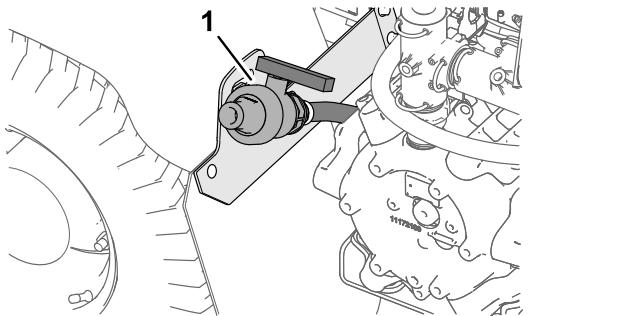

Figure 47
2. Locate the tank-drain valve at the left, rear fender of the machine (Figure 47).